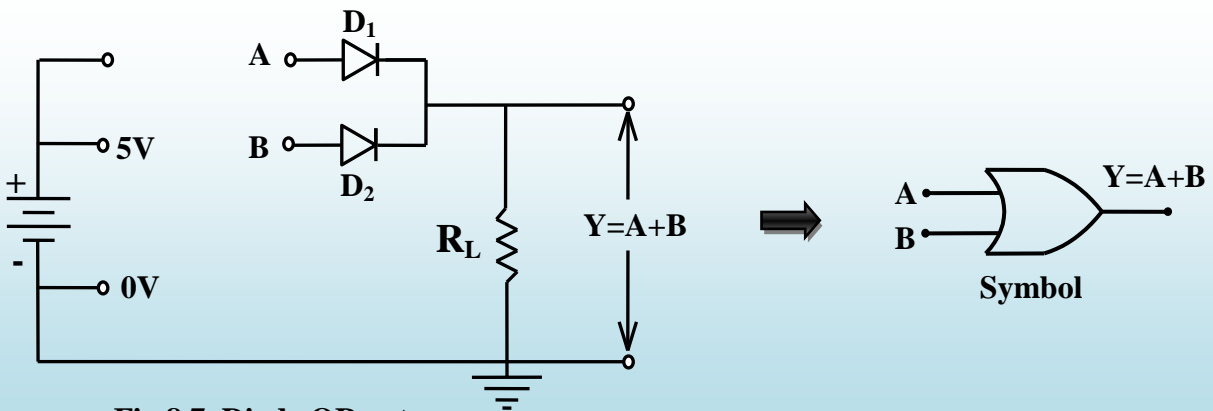

Fig 8.7. Diode OR gate
**Construction:** OR gate is constructed by using diodes and resistors. The circuit diagram of two input diode OR gate and the symbol of two input OR gate is shown in fig 8.7.